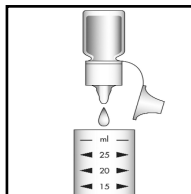

Figure 1
2. Add **2 drops** of A-8500 Activator Solution (fig 1). Cap the cup and shake it to mix the contents well.